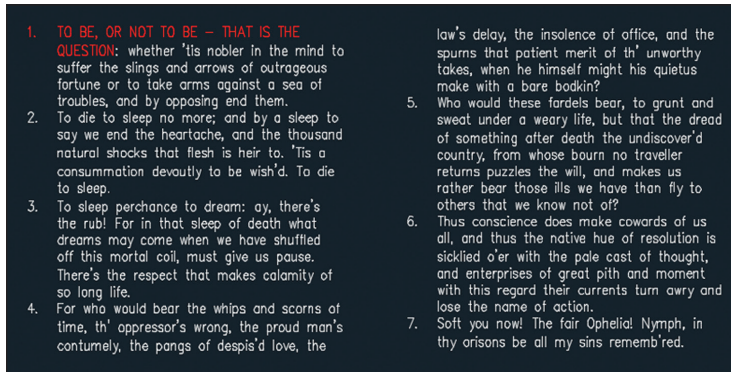

FIGURE 10.16 The result after resizing the column length and deleting the rectangle
3. The left column is too short compared to the right column. Move the Column Height (bottom) grip down until the text in both columns is roughly equalized. Press Esc to deselect the text. Select the rectangle, and press the Delete key. Figure 10.16 shows the result.